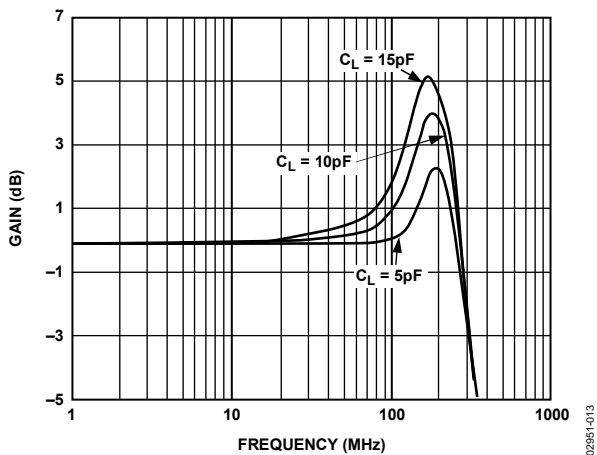

Figure 13. Small Signal Frequency Response for Various C_L , $V_{OUT} = 500\text{ mV p-p}$, $V_S = 5\text{ V}$, $G = +1$
- Put a small value resistor in series with the output to isolate the load capacitor from the output stage of the amplifier, see Figure 12, Figure 13, Figure 27, and Figure 28.